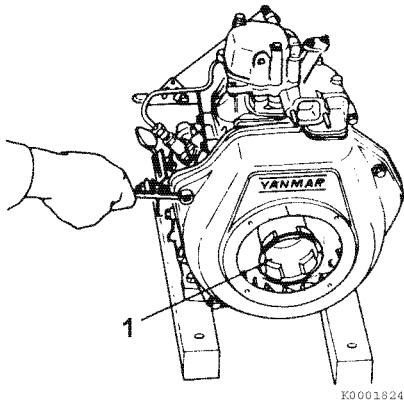

Figure 6-38
13. Remove the cooling fan housing (**Figure 6-38**).
14. Remove the starter pulley from the flywheel (1, **Figure 6-38**).